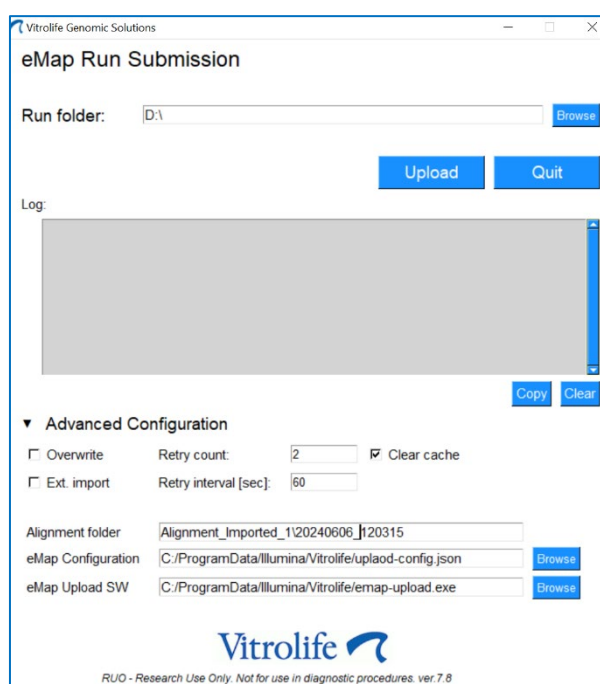

Figure 10: eMap-upload-interface.exe User Interface
1. Open the *eMap-upload-interface.exe* software and use the **Browse** button select the Run Folder to be manually uploaded to eMap for analysis (Figure 10).